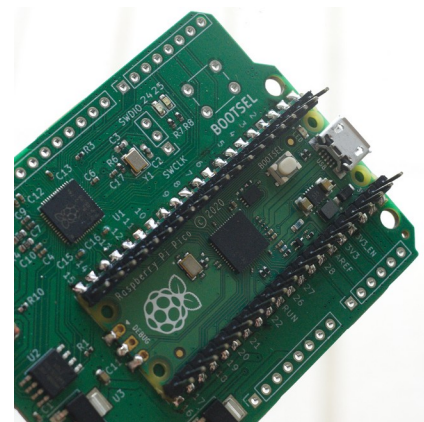

Figure 6: Solder SMD pads.
3. Solder the SMD pads (figure 6) on the front side of the PCB to connect the rest of the GPIOs on the Pico to the PDC. This is required to make the connection between the target Pico and the pin headers, since the pin headers are soldered to the PDC.